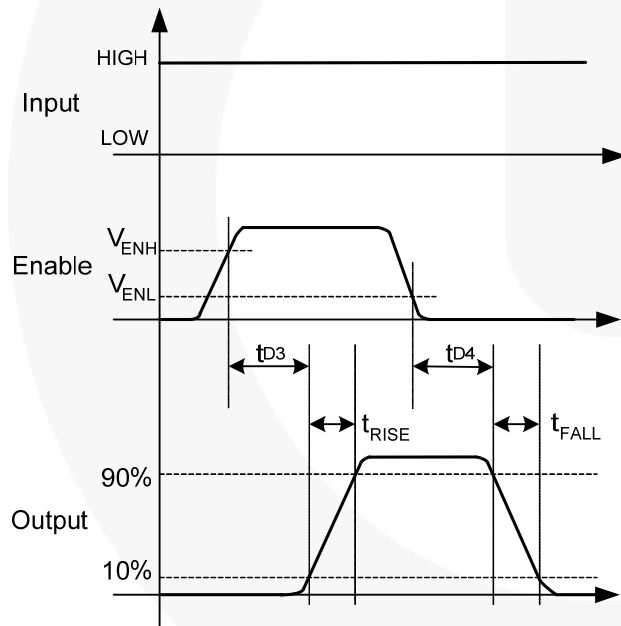
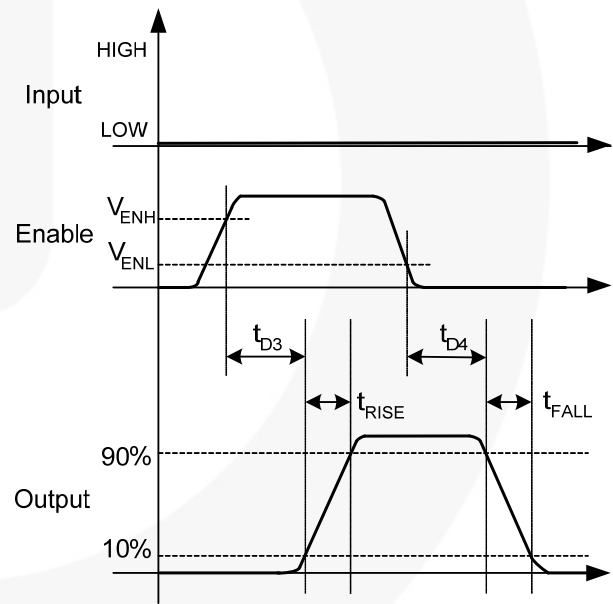

Figure 10. Non-Inverting (IN HIGH)
Figure 11. Inverting (IN LOW)
12. See *Timing Diagrams of Figure 10 and Figure 11*.